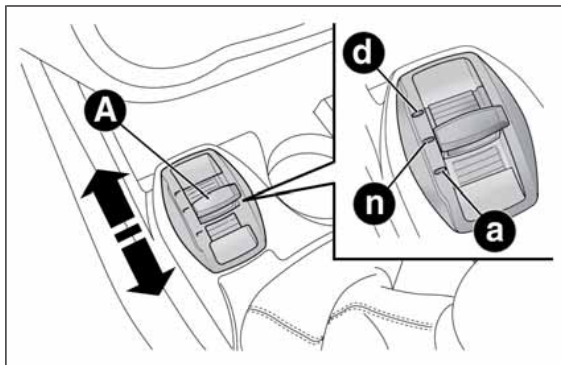

fig. 74
This device allows, using lever A fig. 74 (on the central tunnel), three car response modes to be selected according to driving style and road conditions:
Move the lever A fig. 74 upwards (next to the letter "d") and hold in this position for 0.5 seconds until the corresponding LED lights up or the word "Dynamic" appears on the display (see fig. 77).
Move lever A fig. 74 downwards (to the letter "a") and hold in this position for 0.5 seconds until the corresponding LED lights up or the word "All Weather" appears on the display (see fig. 79).
To deactivate "All Weather" mode and return to "Natural", carry out the same procedure described for "Dynamic" mode, but move lever A fig. 74 to "a".
- ❑ In the event of system failure or a fault with lever A fig. 74, no driving modes can be selected. The display will show a warning message.